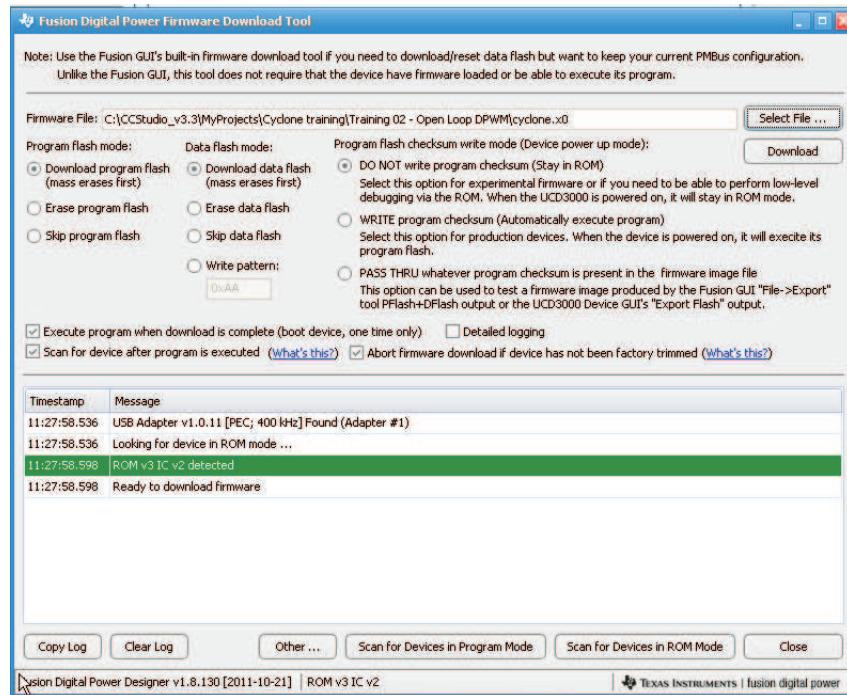

Figure 7. Firmware Code Downloading
4. Click *Firmware Download* and a new window appears as shown in Figure 7. Click *Select File* and browse an intended firmware code file with file extension .x0, for example, *cyclone.x0*. Then click *Download*. TI recommends not writing the program *checksum* (stay in ROM) during firmware development or debug state. The firmware of *cyclone.x0* downloads to the device UCD3138 on the board of UCD3138CC64EVM-030. When asked, click *yes* to complete the download. Click *Close* to exit the download window.